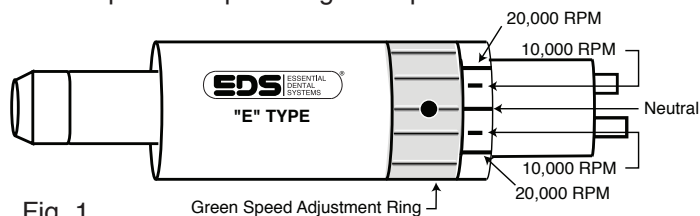

Fig. 1
7. Endo-Express reciprocating handpiece should be running. Adjust speed/control/directional control by turning ring until desired speed is achieved. (Fig. 1)